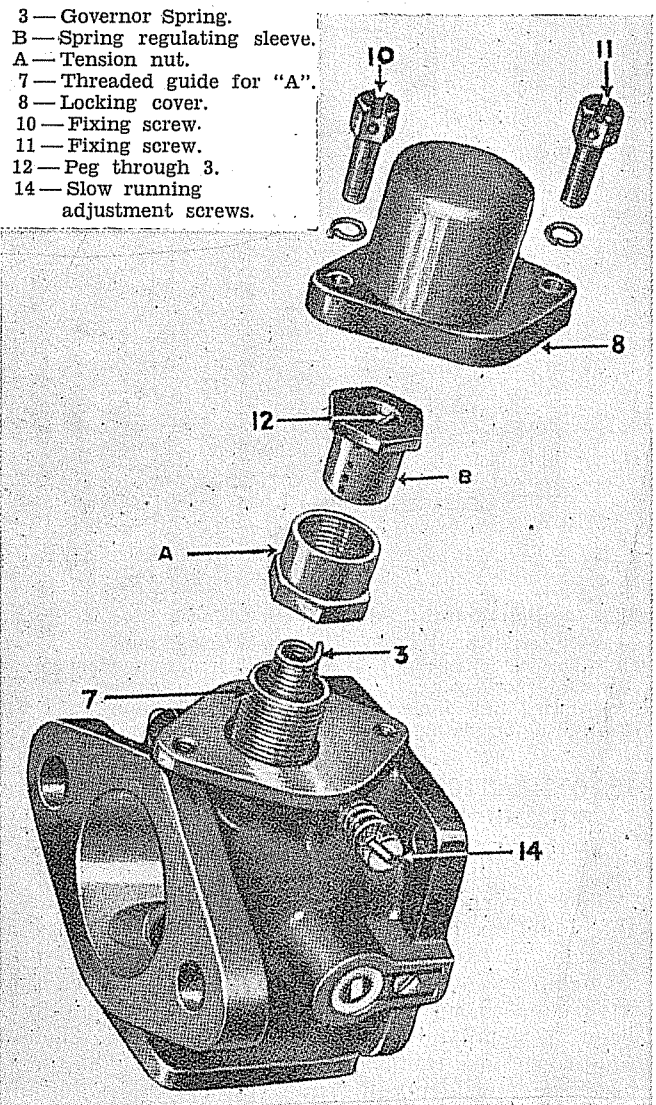

Fig. 9—Exploded View of the Throttle Tube and its Component Parts.
Now refer to Figures 9 and 10. It will be seen that the throttle is mounted eccentrically on the spindle, i.e., the "tail" or that part of it which is first exposed to the incoming air stream, is longer than the "head" and inclined to present a surface sensitive to the varying velocity of the entering air. This air pressure on the tail has the closing effect mentioned. Resisting the closing effect of the air charge is a coil spring (3) Figure 9, anchored to a swivelling link which is part of the throttle design. Since the pressure of the air charge on the throttle or butterfly or vane, increases as the engine speed rises, it will be clear that by adjusting the pull of the spring, any required tension, the throttle will start to close when the pressure of the air charge—and therefore the engine revolutions—reaches an equivalent value. In other words, at the prescribed engine speed we adjust the pull of the spring to equal the pressure on the butterfly of the incoming air, and at that moment the throttle takes up the position limiting and stabilising the engine speed, and consequently the road speed.
- (1) Governor operation satisfactory but speed too high.
Remove screws 10 and 11 (Figure 9) being careful not to lose the small spring washers and withdraw the cover cap (8). Hold the sleeve (B) immovably, and rotate the nut (A) in a clockwise direction, i.e., screw inwards. One facet or flat of the hexagon is approximately equal to one mile per hour. Any confusion between sleeve (B) and nut (A) will be avoided if it is remembered that nut (A) is always the inner hexagon.
Correction for both conditions is obtained by altering the position of the peg (12) in the sleeve (B) to another pair of locating holes. There is a choice of four pairs in all as shown in Figure 9. Select one nearer the hexagon of the sleeve (B) to deal with the first case, and farther away from it in the second.
(9) Re-threading sleeve (B) into the spring.
After completing adjustments, replace the cap and secure it by the screws 10 and 11 (Figure 9) and their spring washers. It should be sealed also by passing a wire through the drilled heads of the screws and securing the wire with a lead seal, so as to make it secure against tampering.